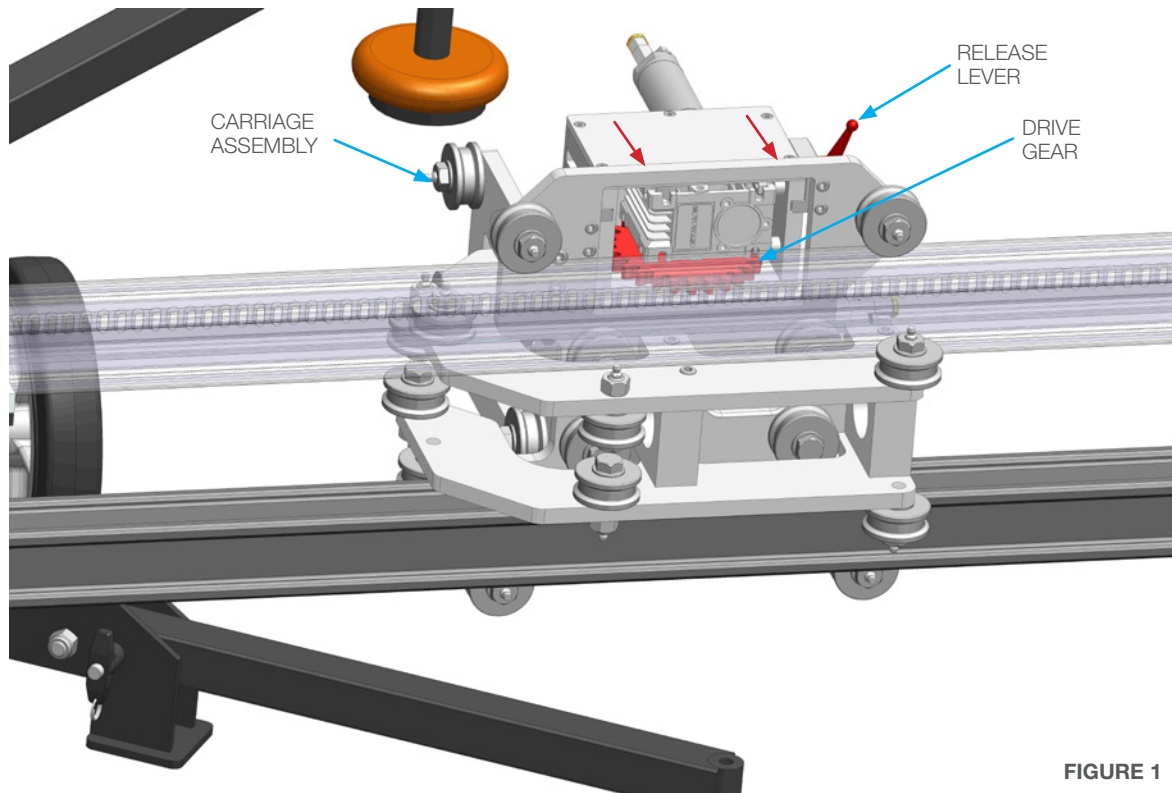

FIGURE 1
1. Mount the Long and Short Legs to the Cart as shown in **(Figure 1)**
****Verify Long and Short Legs are in the appropriate positions based on (Figure 1).**
1. Remove the 1/2" Bolts, Lock Nuts, and the Quick Release Pins from the Standard Leg Assembly and Cart. **(Figure 1)**
Place the Gearbox Assembly on the Mounting plate as shown in **(Figure 1)**. Install Wedge Bolt through both inboard and outboard plates and the Gearbox Assembly on the Cart Weldment before tightening. ****NOTE: Orient Wedge Bolt flats as shown in (Figure 2).**
1. Install Socket Mount Plate from the Cart Assembly and fully engage the Spring Pin. **(Figure 1)**.
1. Install the Vertical Rail Assembly by aligning the splines and depressing the spring pin on the spline coupling. **(Figure 1)**
1. Slide the Carriage down the rails to about mid-way (**Figure 1**) and engage the drive gear by releasing the lever, engaging the gear into the slots and the rail, and tightening the lever.
1. Install the Tie Rail Stop to the end of the Vertical Rail Assembly. **(Figure 1)**
1. Insert the High Pressure Hose. (Figure 1, 2)
- The **WRIST** speed controls are located on the STRIKER™ (SKR-100) See **Figure 1** for adjustment instructions. Wrist Speed and Resistance settings will operate differently while it is under high pressure water versus operating with air only.